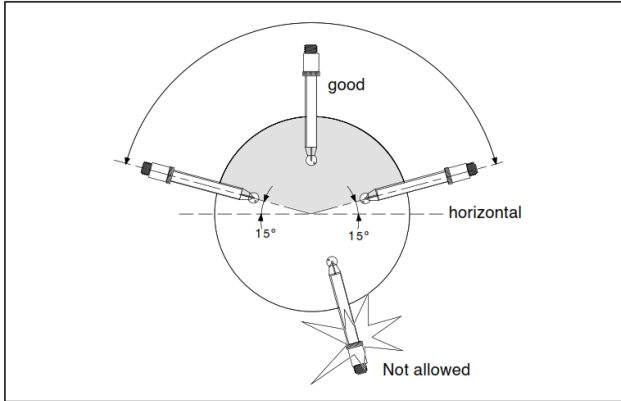

Figure 4. Electrode minimum angle
- Mount the Compact Direct Insertion Probe into the process so that the electrode is in a position shown in fig.4
- a. Optional adapters with process connections 1 1/4" BSPT male (12) or 1" NPT male (14) have to be taped only at the process side!. They are also used in combination with the optional T-pieces (13 and 15).
- b. Optional welding sockets for direct mounting into a pipeline or tank can be welded straight (17) or angled (16), but the electrode must be in a position as shown in fig. 4.